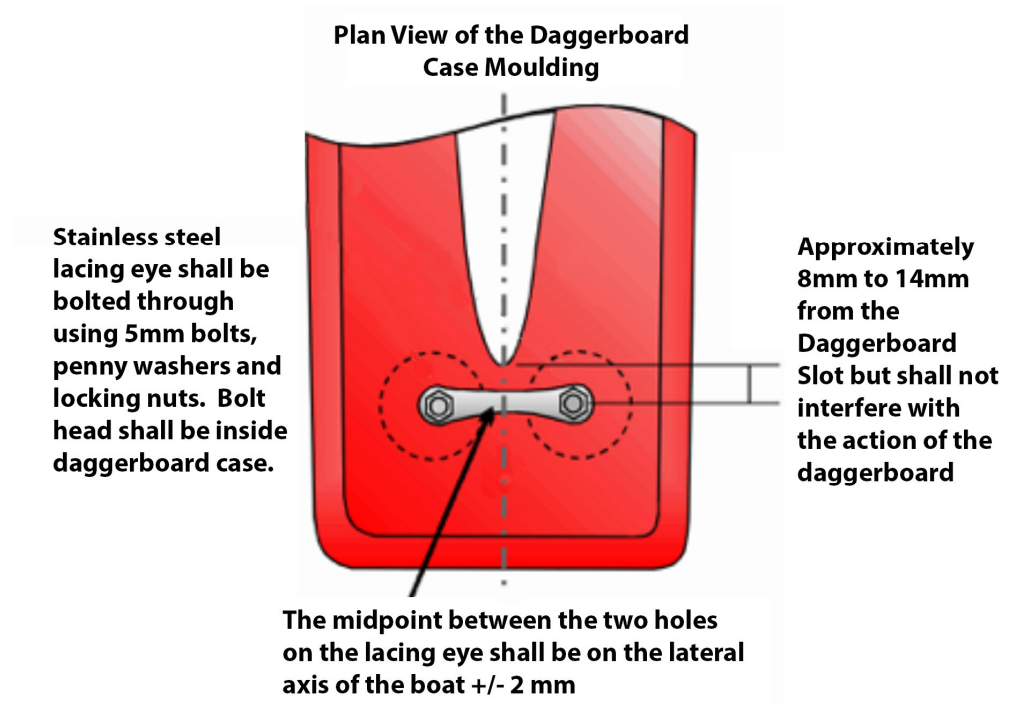

Figure 1
- i) The position of this lacing eye shall be within the recessed area and ideally but not exclusively between 8-14mm from the back edge of the **daggerboard** slot. The midpoint between the two holes in the lacing eye shall be on the **lateral axis** of the boat +/-2mm (Figure 1). The new block and eye shall not interfere with the action of the **daggerboard**.